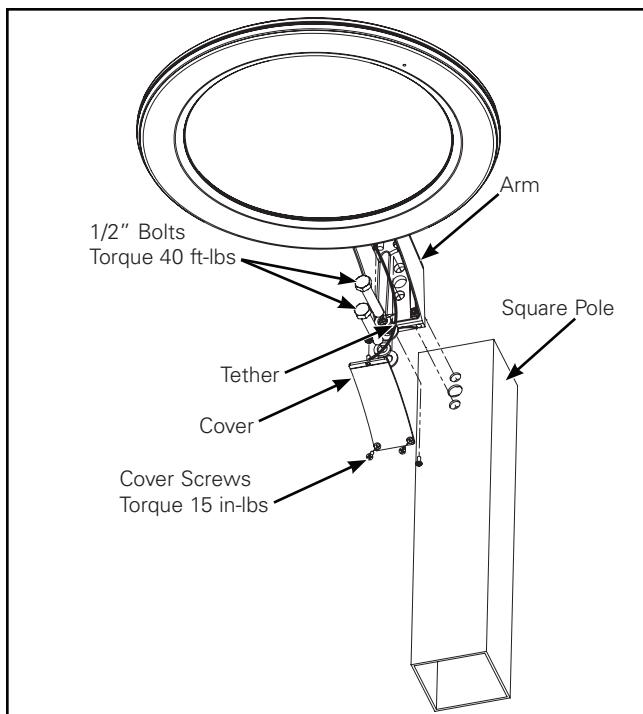

Figure 1.
Pole Mount Installation (Figure 1)
2. Mount the arm to the round or square pole using the provided 1/2" x 2-1/2" long bolts and nuts as shown. Torque bolts to 40 foot-lbs. (Figure 1.)
3. Pull supply wires through pole and back of arm so connection can be made inside unit arm. (Figure 1.)